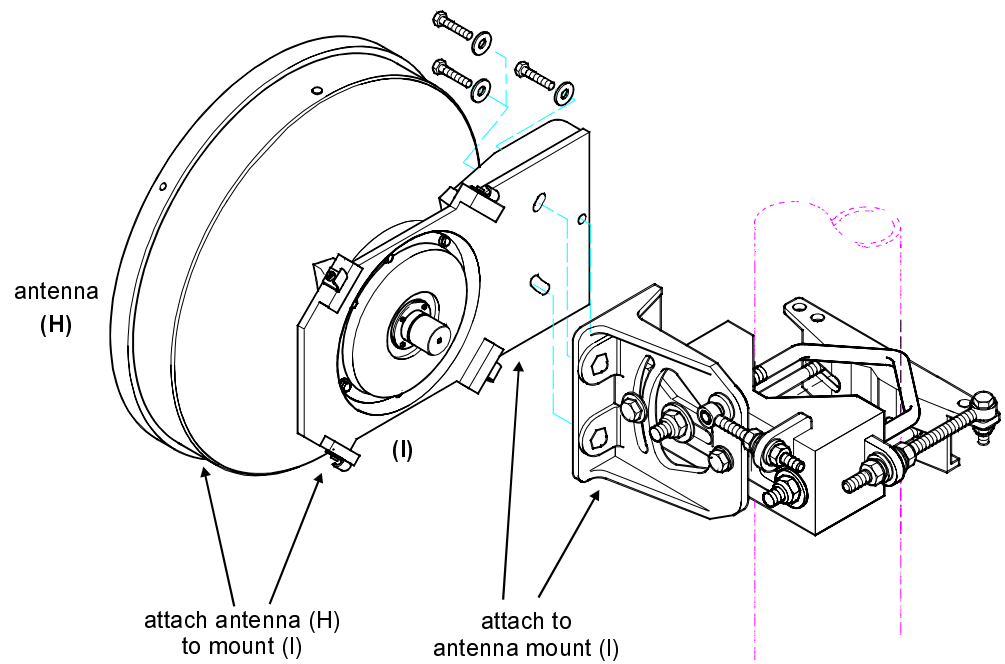

Figure 3-14 Antenna Assembly (cont.)
Note The safety collar assembly shown in Figure 3-14 above ((A) and (B)) is used to align and support the antenna mount during installation and antenna alignment. Once the mount is in place and alignment is completed, all bolted joints of the antenna mount are tightened and there is no further need for the support provided by the safety collar assembly. It may then be removed for use in future installations.
2. Connect (C) to (D) at the approximate elevation needed to face the opposing ODU (determined by the bolts fastened to part (C)).